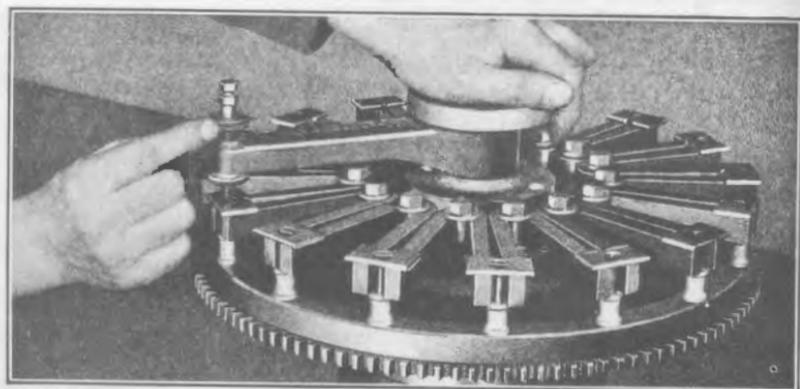

Fig. 207
- 317 To check the height of the magnets with a gap gauge, position the gauge on the flange of the transmission gear shaft and slowly revolve gauge (See Fig. 207). If there is any variation in the height of the magnets it can be readily detected. Magnets which are high can be set to the correct height by lightly tapping the magnet clamps with a copper or lead hammer. The magnet clamp screws should then be tightened. The ends of the brass screws are then peened and the screws carefully inspected to make sure they are all drawn down tightly.